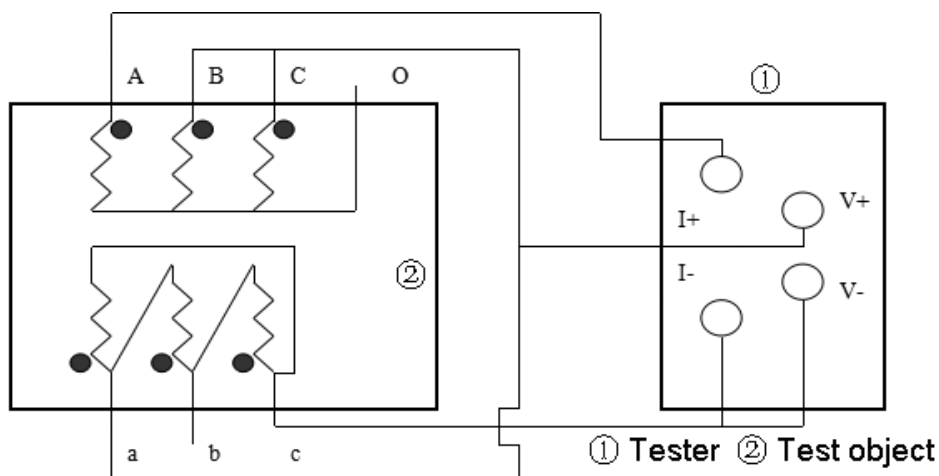
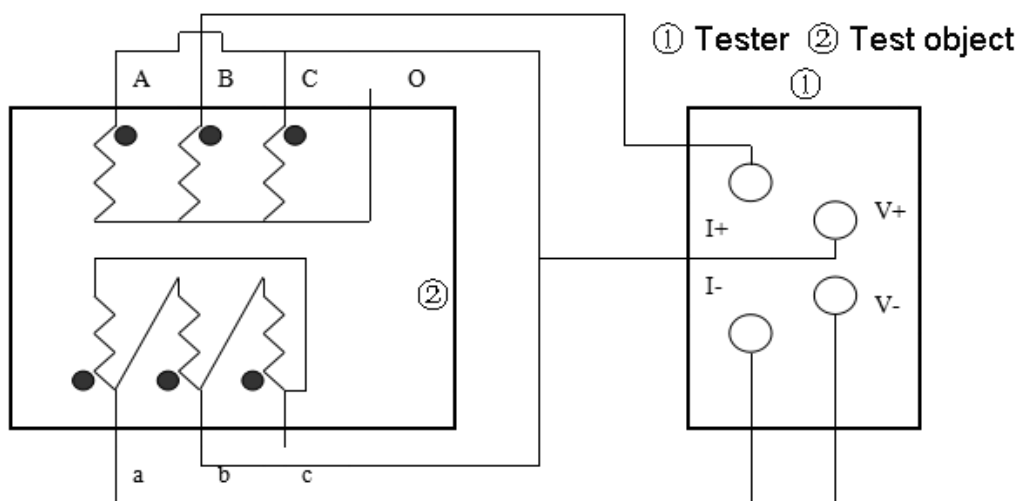
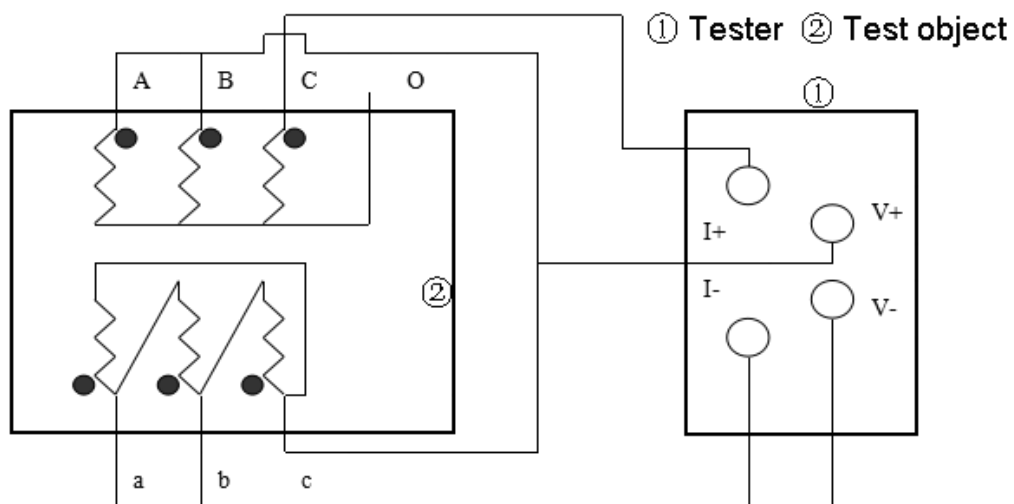

Figure 3
Figure 4
Figure 5
B. The wiring of saturable magnetic circuit method is shown in below Figure 3~5: (suitable for Y(N)-d-11 connection group)
For the low-voltage side measurement of a large-capacity transformer, if the maximum current of the DC resistance tester is small in the existing case, or to speed up the measurement speed, the saturable magnetic circuit method can be selected. In the figure below, Figure 3, Figure 4, and Figure 5 are the wiring methods for measuring the low voltage R_{ac} , R_{ba} , and R_{bc} respectively.